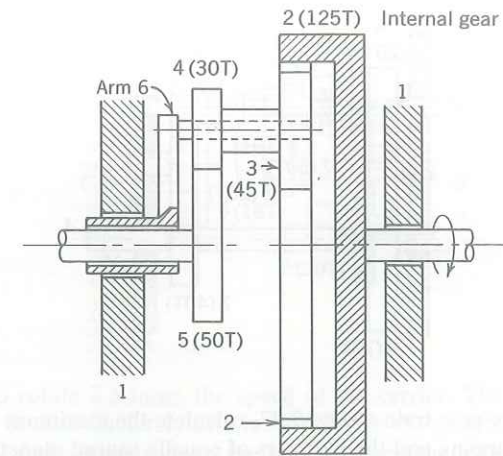

FIGURE 7.42
7.28. In the planetary gear train shown in Fig. 7.42, gear 2 turns at 600 rpm in the direction indicated. Determine the speed and direction of rotation of arm 6 if gear 5 rotates at 350 rpm in the same direction as gear 2.